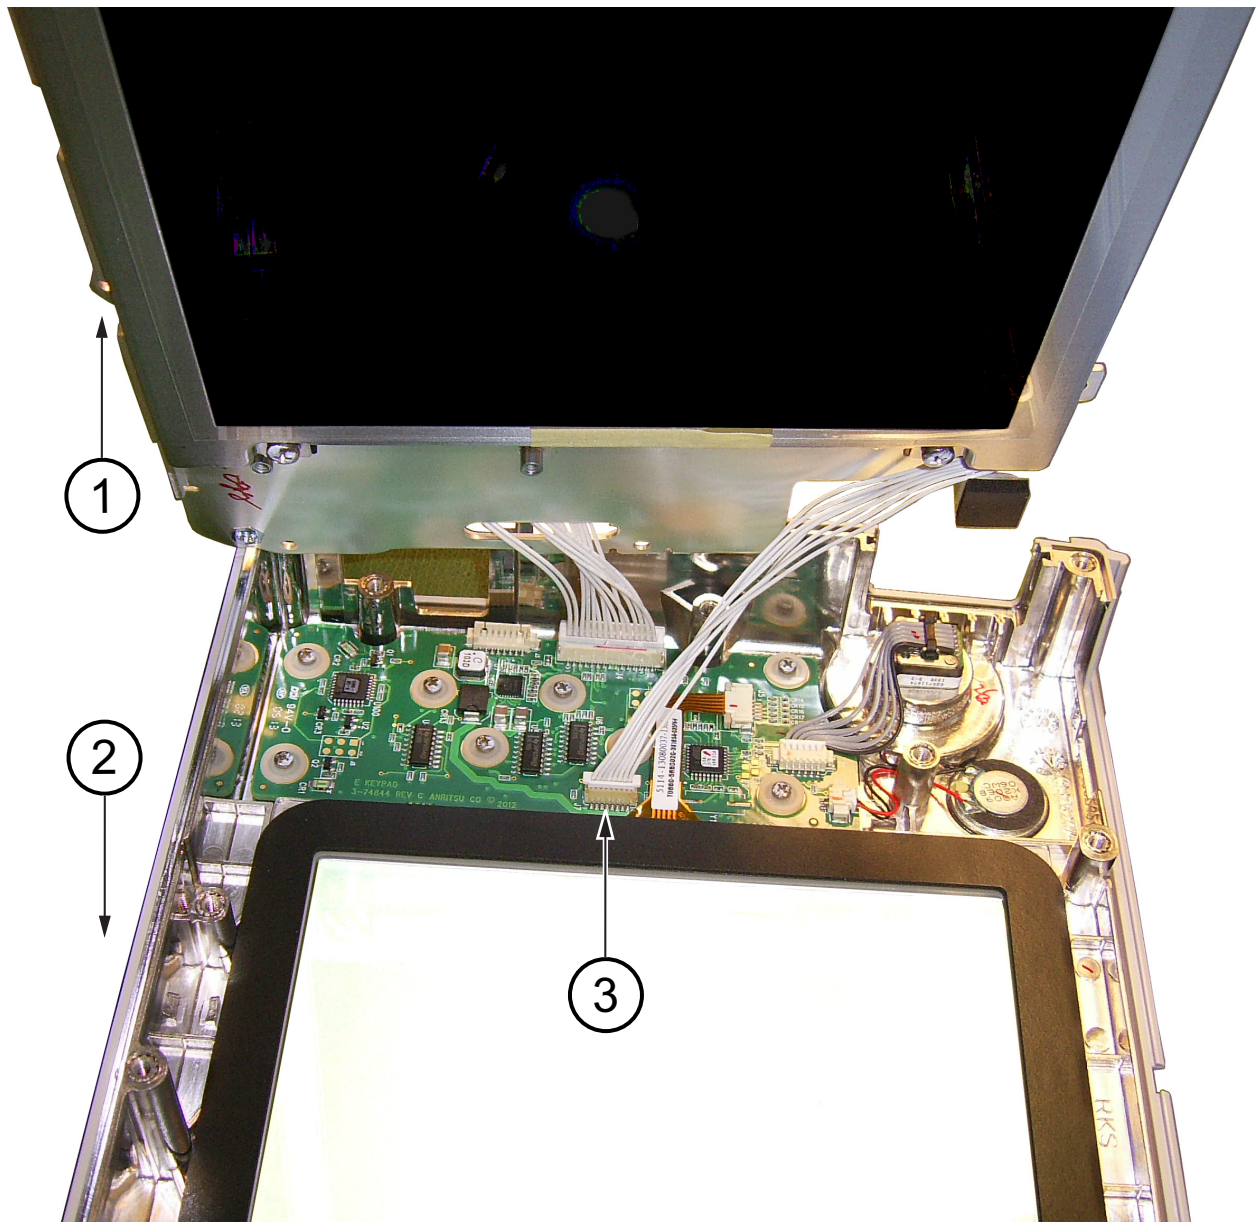

Figure 4-34. Replacing the LCD Assembly
4. Lift and turn up the LCD assembly as shown in Figure 4-34, being careful to avoid strain on the LED Backlight cable (item 3).
5. While holding the LCD Assembly turned up, as shown in Figure 4-34 on page 4-43, connect the LED backlight cable to the Keypad PCB (see item 3 in Figure 4-34).